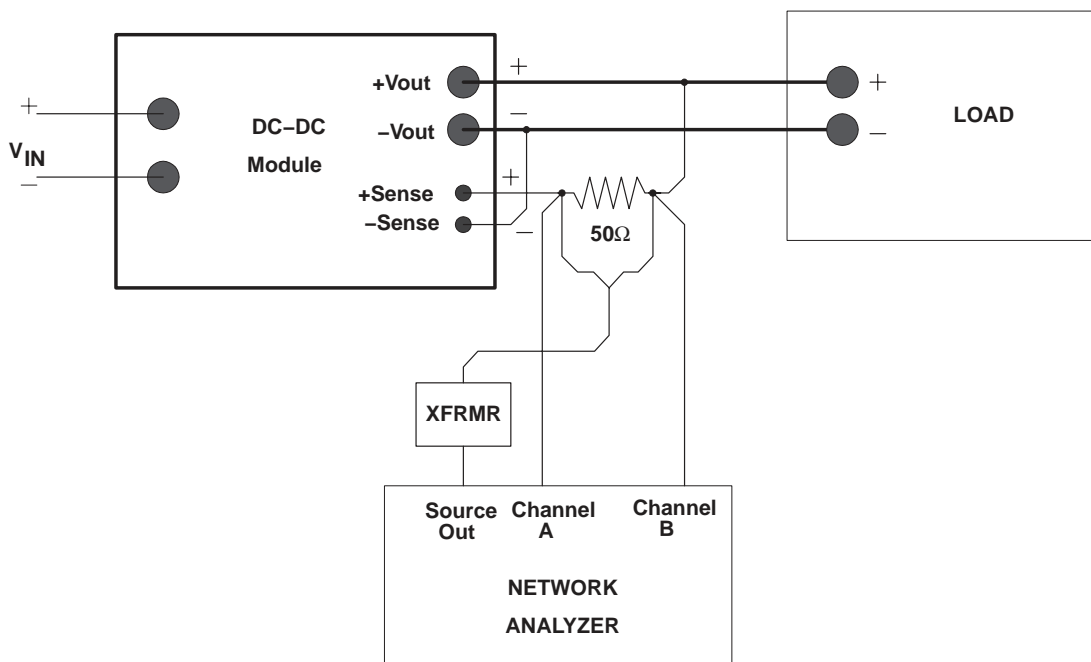
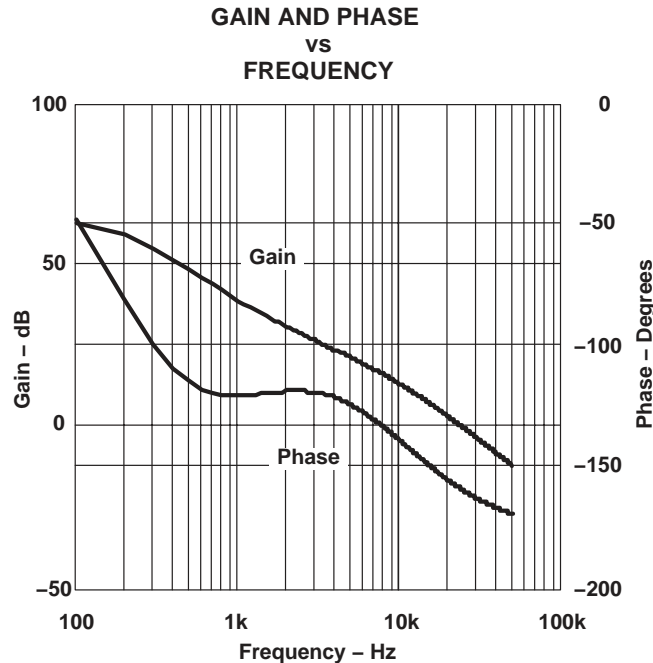

Figure 2. Measuring the Unity Gain Crossover Frequency
Figure 3
Power modules usually have a very low bandwidth to ensure proper operation with a variety of loads. The transfer function is determined using a network analyzer and injecting a small signal across a 20- $\Omega$  to 50- $\Omega$  resistor placed between the positive sense terminal and the positive voltage output terminal as shown in Figure 2. The resultant bode plot will show the dc gain and the unity gain crossover frequency of the module. Expect the module's crossover frequency to be within the range from 10 Hz to 30 kHz. The desired crossover frequency for the load-share loop is set well before the crossover frequency of the modules. This is accomplished by adding a zero to the compensation of the transconductance error amplifier as described in the error amplifier section. The unity gain crossover frequency is unique to the specific module and must be measured for each module type.
Figure 3 shows an example of the gain and phase frequency response measurement of a power module.
The total load-share loop must be configured for a unity gain crossover frequency well before the crossover frequency of the module,  $f_{CO\text{module}}$ , as measured in Figure 2 and shown in Figure 3. This is accomplished by placing a zero in the error amplifier compensation at least one decade before the module's crossover frequency. Compensation of the transconductance error amplifier is done by placing the compensation resistor,  $R_{EAO}$  shown as R30 in Figure 1, and capacitor,  $C_{EAO}$  shown as C12 in Figure 1, between EAO and GND. The values of these components are determined by the following loop gain equation:
6.  $A_{PWR(f_{CO})}$  is the measured gain of the power module at the desired inserted zero frequency, read from Figure 3 and converted from dB to V/V.